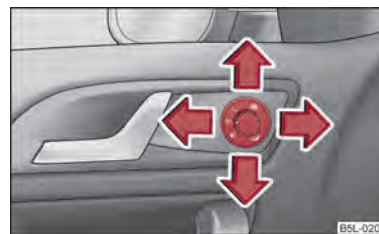

Fig. 41 Inner part of door: Rotary knob
- Turn the rotary knob to position ☞ ⇒ fig. 41.
On vehicles fitted with a memory for the driver seat, the surface of the mirror tilts down slightly when the rear gear is engaged and the rotary knob is in the position **R** ⇒ fig. 41. This provides an aid in seeing the kerb of the pavement when parking the car.
- If the exterior mirrors are folded in using the rotary knob ⇒ fig. 41, they can only be folded back into the driving position using the rotary knob.